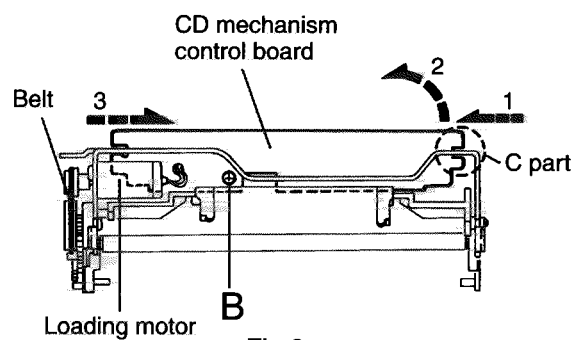

Fig.2
- 4.Remove the one screw B retaining the CD mechanism control P.C.board(See Fig. 2).
5. After disengaging the engagement between the notch section c and frame,remove the CD mechanism Control P.C .board successively from 1 through to 3 in the arrow direction as shown in Fig. 2.